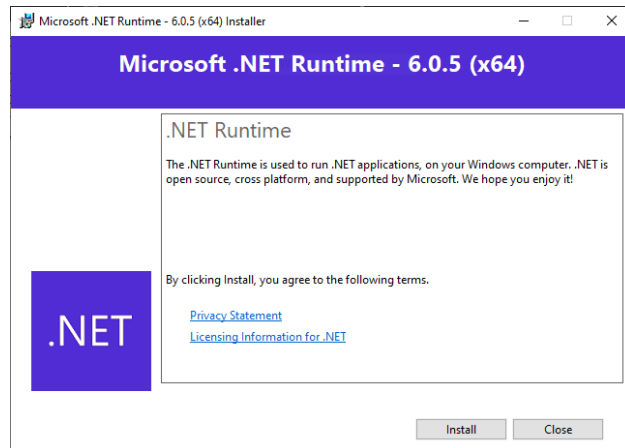
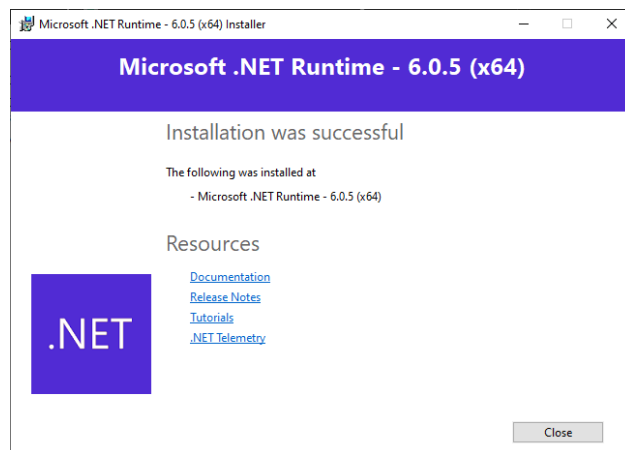

Figure 26: .NET runtime installation window.
Figure 27: .NET runtime successful installation window.
6. (Optional) In case the .NET runtime needs to be installed, click *Install* in the .NET runtime installation window (Fig.26). In case of successful installation, the window shown in Fig.27 will appear.